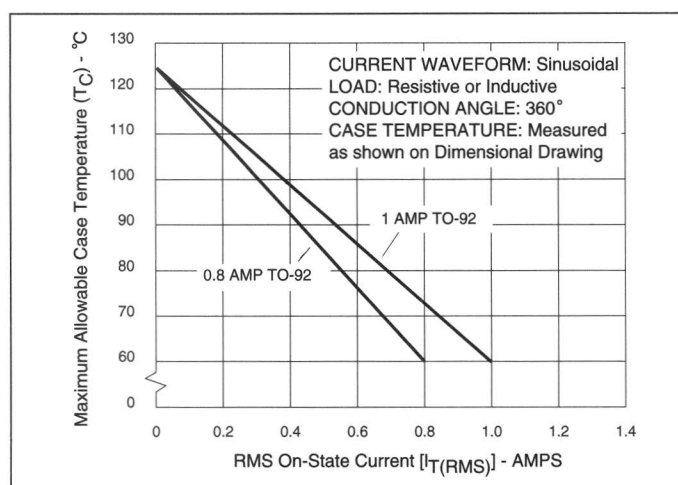
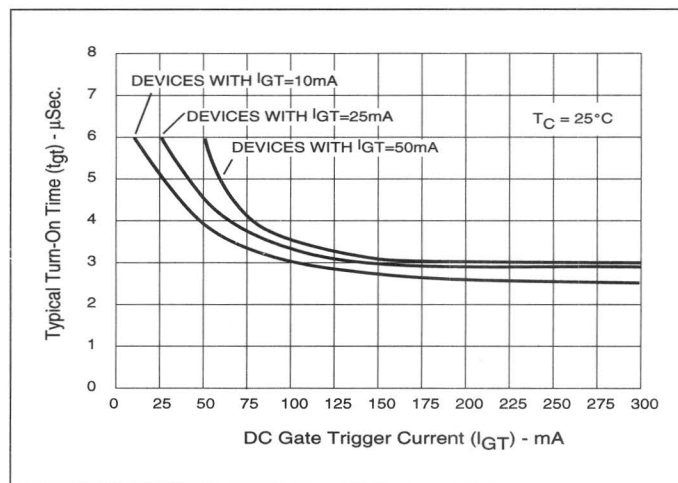

Figure 2.1 Maximum Allowable Case Temperature vs On-State Current (0.8 and 1.0 Amp)
Figure 2.15 Turn-On Time vs Gate Trigger Current (Typical)
- See Figures 2.1 through 2.7 for current rating at specific operating temperature.
- See Figure 2.15 for t_{gt} vs I_{GT} .
- Initial on-state current = 200mA(DC) for 1-10 amp devices, 400 mA(DC) for 15 amp to 25 amp devices.
- See Figures 2.1 through 2.6 for maximum allowable case temperature at maximum rated current.